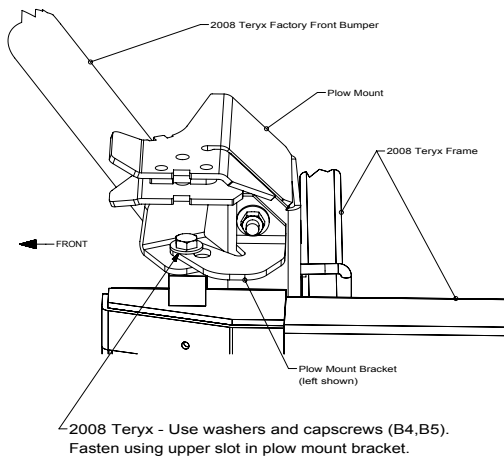

Figure 10A
13. Install 10mm bolts, washers and spacers, through the lower front bumper and lower plow mount brackets, and into the frame. See figure 10A and 10B. Do not tighten.